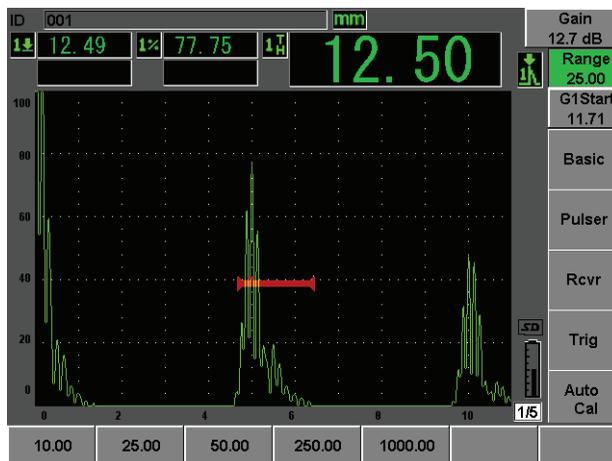

Figure 2-17 The Range value
16. Press **[RANGE]**, and then adjust the screen range to the desired setting (see Figure 2-17 on page 46).